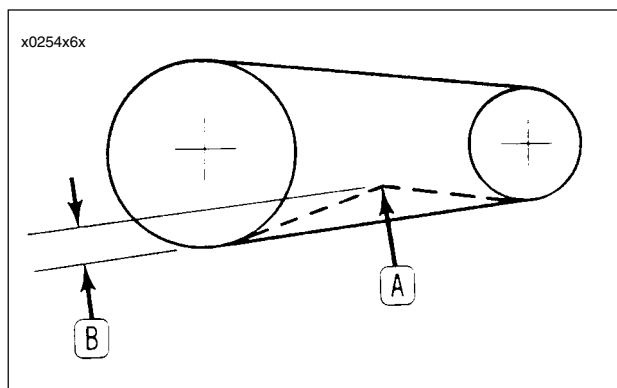

Figure 1-27. Secondary Drive Belt Deflection
3. See Figure 1-27. Check belt deflection at position "A," midway between transmission sprocket and rear wheel sprocket. Apply 10 lbs (4.5 Kg) of upward force on lower span of rear belt using BELT TENSION GAUGE (Part No. HD-35381).
1. See Figure 1-27. Determine belt deflection in manner specified in **INSPECTION**. If belt deflection "B" is not correct, adjust per the following procedures.